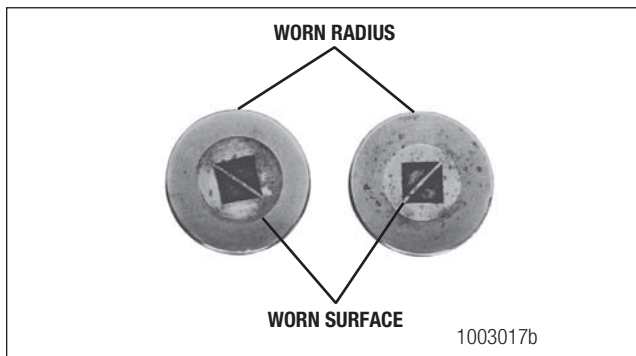

Figure 6.1
- The center of the large diameter end of the rollers is worn level with or below the outer surface. Figure 6.1.